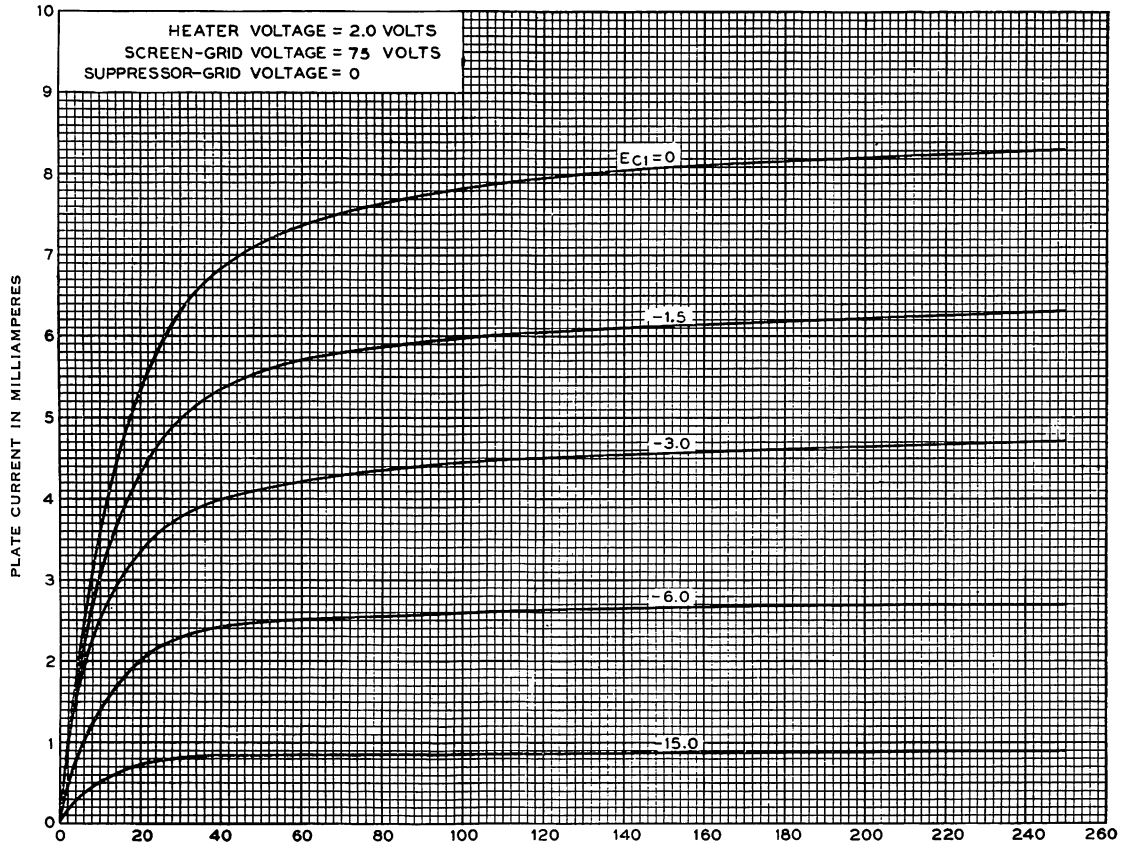
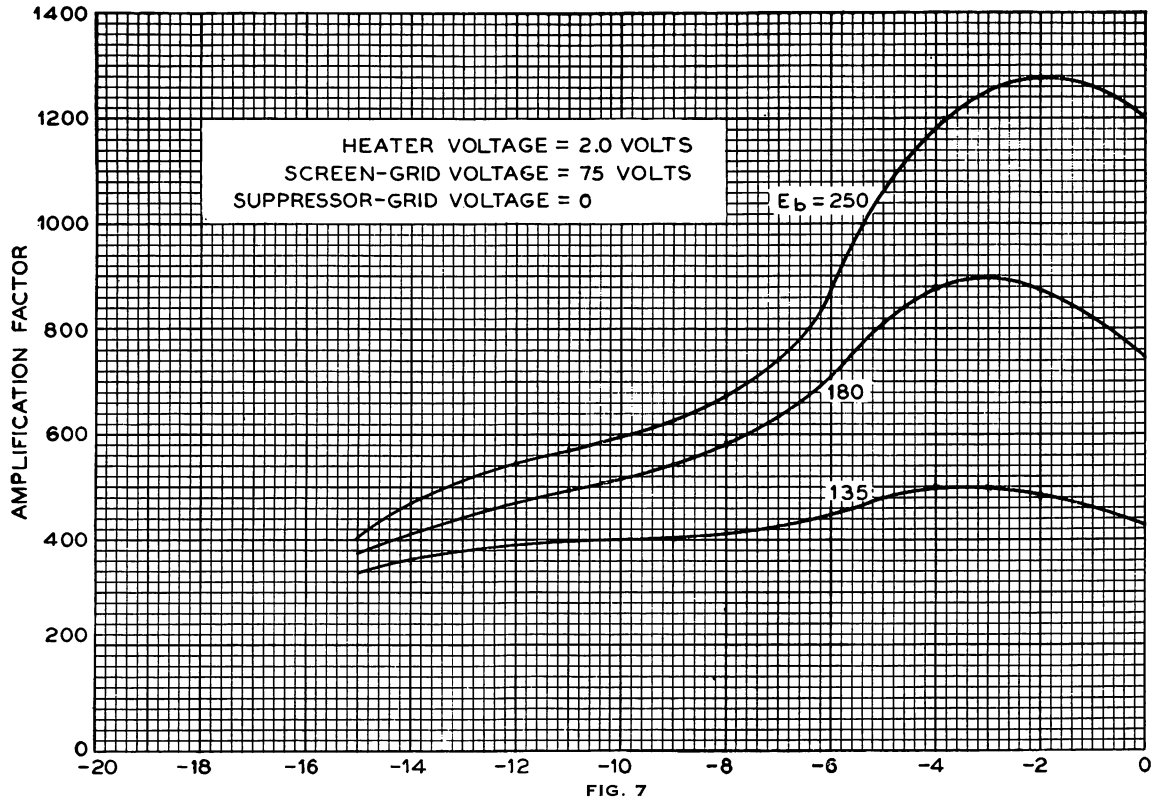
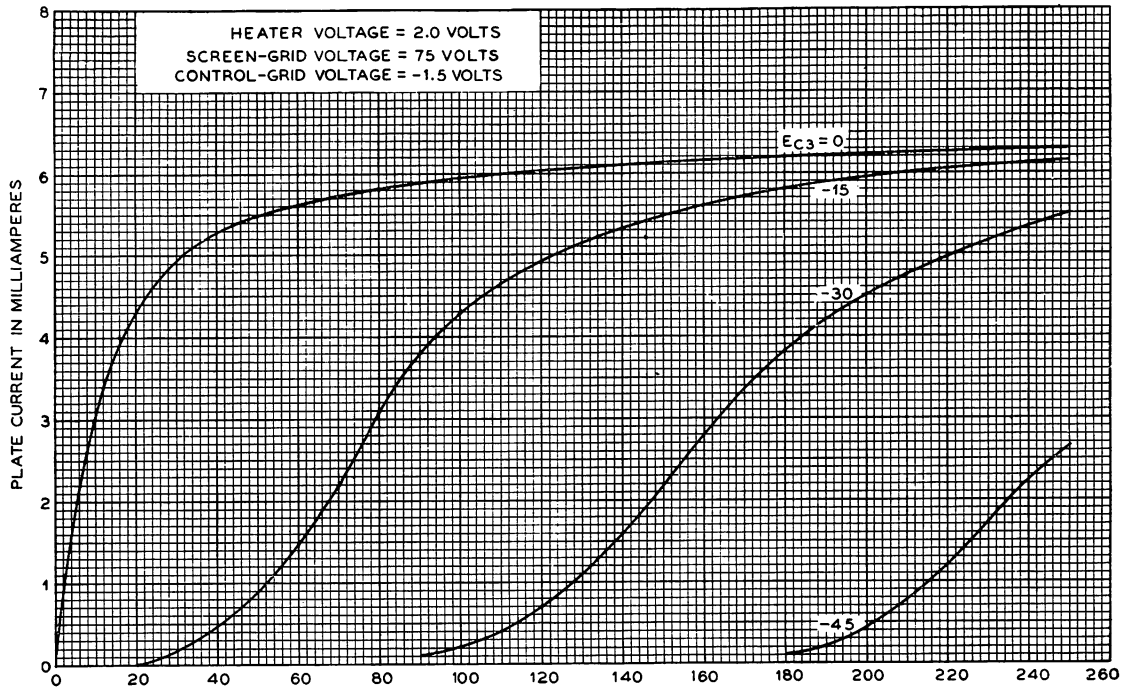
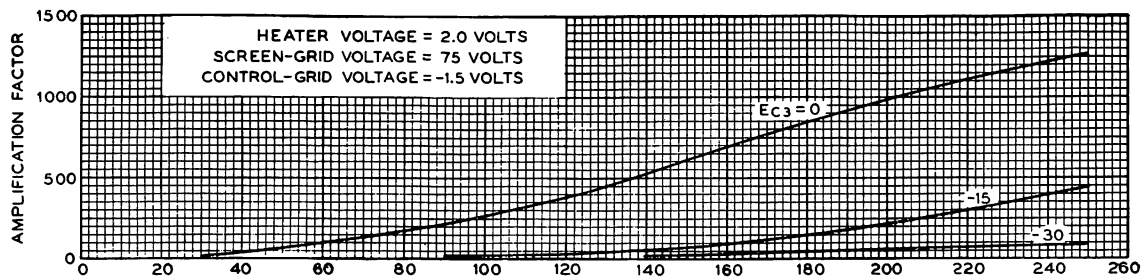

FIG. 3
FIG. 7
FIG. 9
FIG. 11
**Characteristics**—Plate current and screen-grid current characteristics of a typical 286A tube are given in Figures 3 and 4, respectively, as functions of plate voltage for a screen-grid voltage of 75 volts, zero suppressor-grid voltage, and several values of control-grid voltage. A typical characteristic showing plate current as a function of control-grid voltage is given in Figure 5 for a plate voltage of 180 volts, a screen-grid voltage of 75 volts, and zero suppressor-grid voltage. The corresponding transconductance characteristic is shown in Figure 6. For other plate voltages between 135 and 250 volts, the transconductance of a typical tube for values higher than 5 micro-mhos does not differ by more than  $\pm 2$  per cent from its value at 180 volts. Amplification factor and plate resistance characteristics are shown in Figures 7 and 8, respectively, as functions of control-grid voltage for a screen-grid voltage of 75 volts, zero suppressor-grid voltage, and several values of plate voltage. Plate current and screen-grid current characteristics are shown in Figures 9 and 10 as functions of plate voltage for a screen-grid voltage of 75 volts, a control-grid voltage of  $-1.5$  volts, and several values of suppressor-grid voltage. Corresponding amplification factor, plate resistance, and transconductance characteristics are given in Figures 11, 12, and 13, respectively.